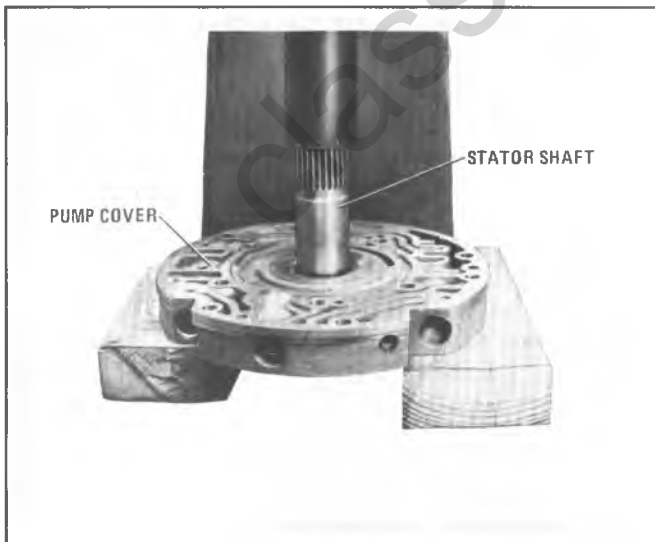

Figure 7A6-206 Removing Stator Shaft and Flange Assembly
- b. Using a press, press the stator shaft until it is removed from the pump cover bore (Figure 7A6-206).